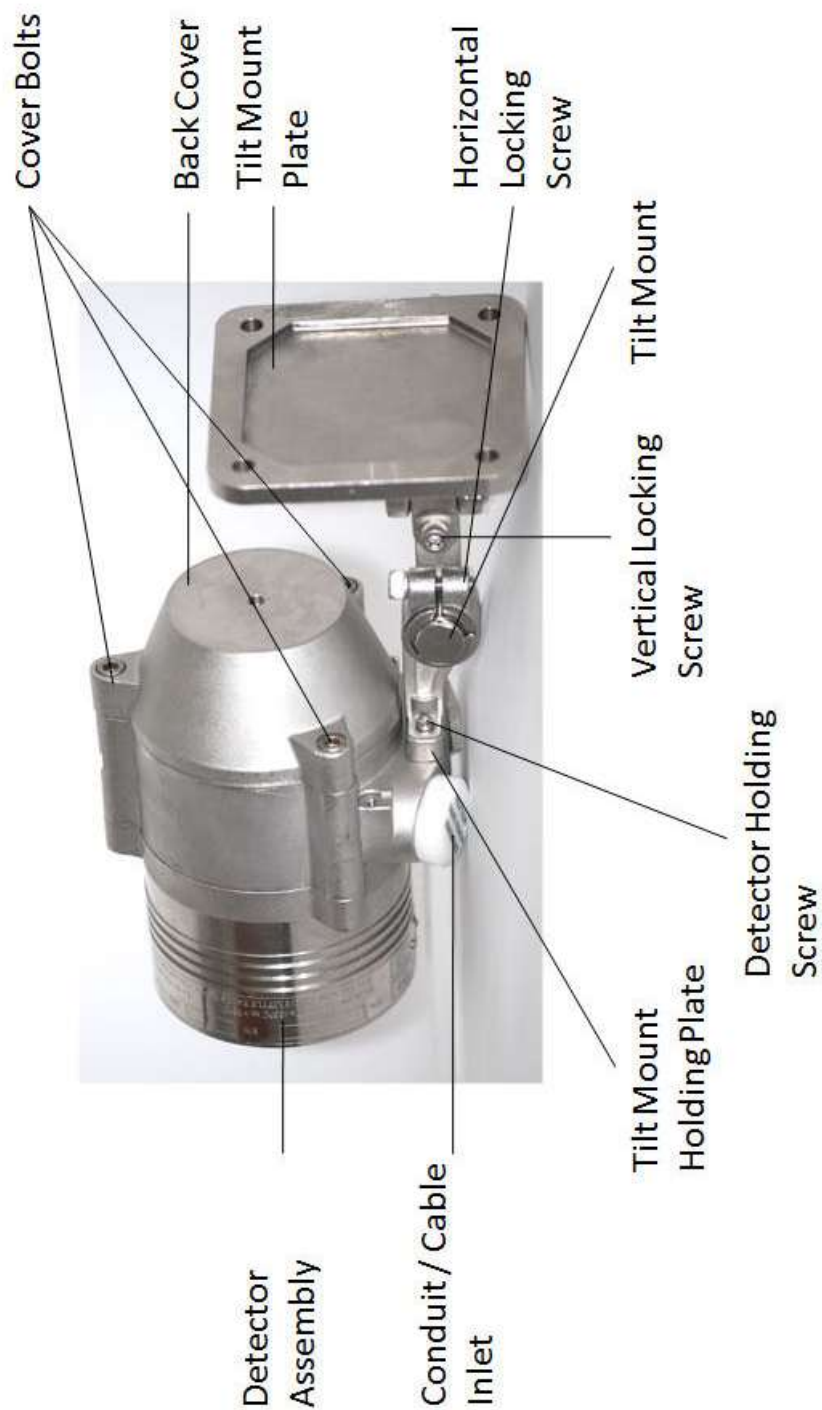

Figure 5: Detector with Tilt Mount
The Tilt Mount enables the detector to be rotated up to 60° in all directions. Figure 5 shows the Detector mounted on the Tilt Mount.
- 9 Place and secure the detector's back cover by screwing the four (4) socket-head-screws in the Cover Bolts (Figure 5).